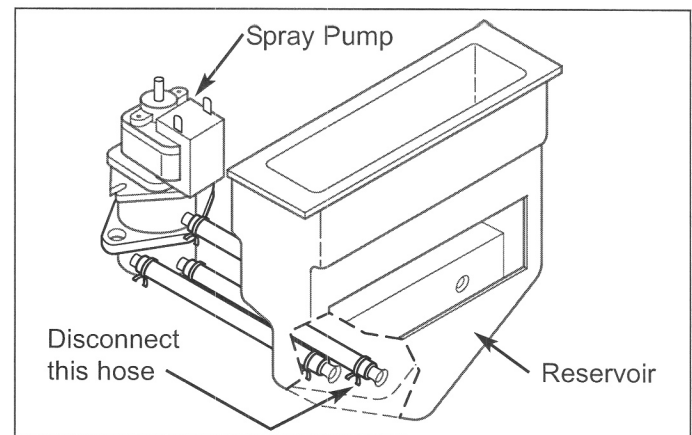

Figure 4-8. Emptying Water from Reservoir
3. Locate the bottom hose that runs from the circulating/spray pump to the reservoir. Loosen the hose clamp on that hose and disconnect the hose from the reservoir. (See Figure 4-8) This will drain the reservoir.